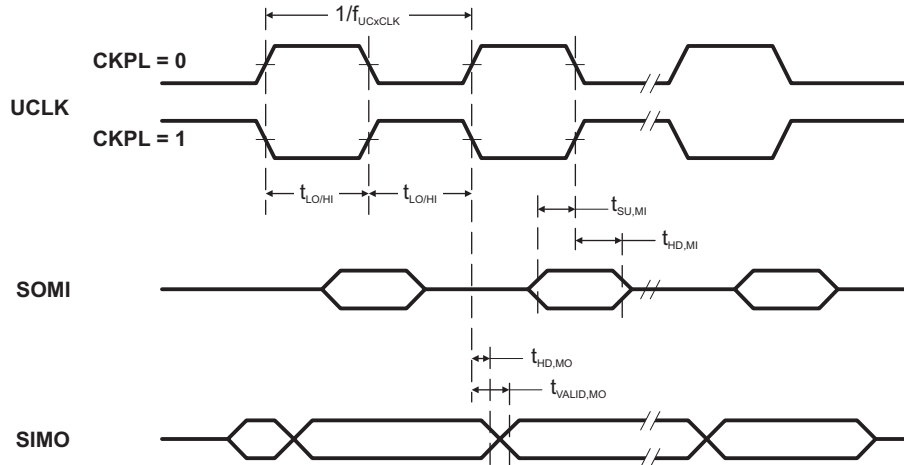
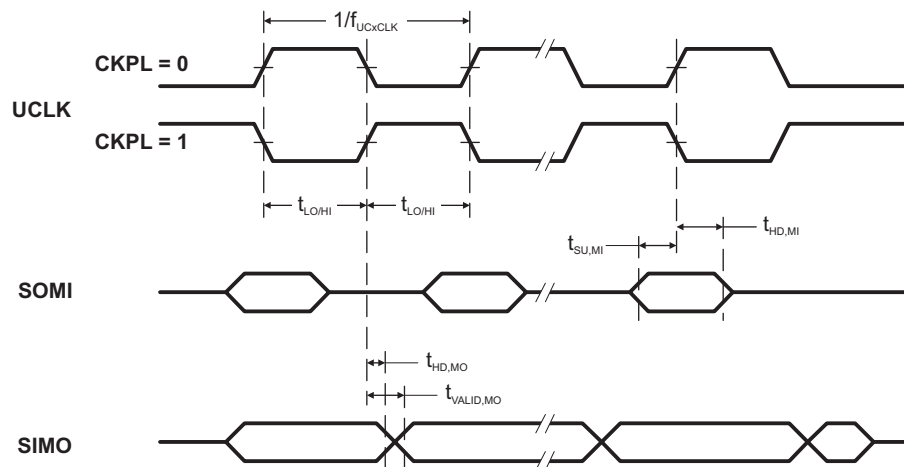

Figure 13. SPI Master Mode, CKPH = 0
Figure 14. SPI Master Mode, CKPH = 1
(see Note ⁽¹⁾, Figure 13 and Figure 14)
(2) Specifies the time to drive the next valid data to the SIMO output after the output changing UCLK clock edge. Refer to the timing diagrams in Figure 13 and Figure 14.
(3) Specifies how long data on the SIMO output is valid after the output changing UCLK clock edge. Negative values indicate that the data on the SIMO output can become invalid before the output changing clock edge observed on UCLK. Refer to the timing diagrams in Figure 13 and Figure 14.
- (2) Specifies the time to drive the next valid data to the SOMI output after the output changing UCLK clock edge. Refer to the timing diagrams in Figure 13 and Figure 14.
- (3) Specifies how long data on the SOMI output is valid after the output changing UCLK clock edge. Refer to the timing diagrams in Figure 13 and Figure 14.